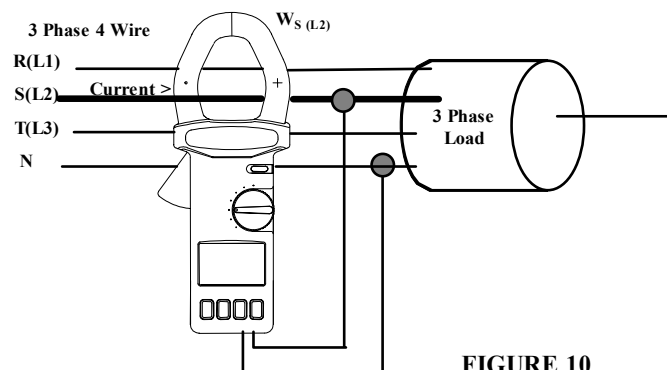

FIGURE 10
2. Measure W_S (or W_{L2}) (Fig. 10).